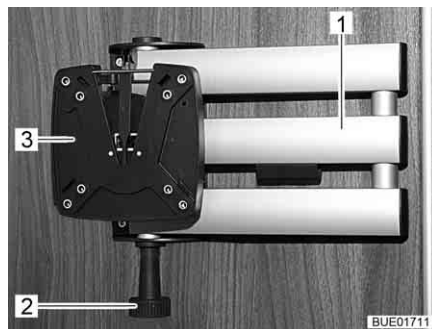

Fig. 75 Holder with jointed arm
- Pull the release knob (Fig. 75,2). The jointed arm (Fig. 75,1) is unlocked.
- Turn the flat screen back into the original position until you hear the holder (Fig. 75,3) engage in the lock.